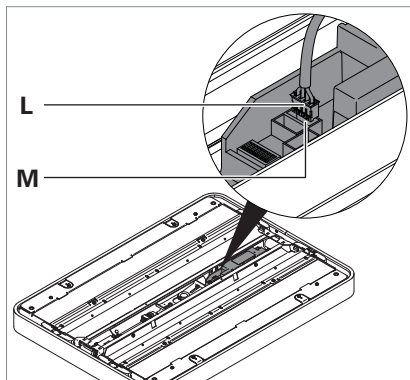

Fig. 10: Connecting the light head, Part 1.
- Connect the plug **L** to the socket **M** "Tastm." at the light head, see Fig. 10.